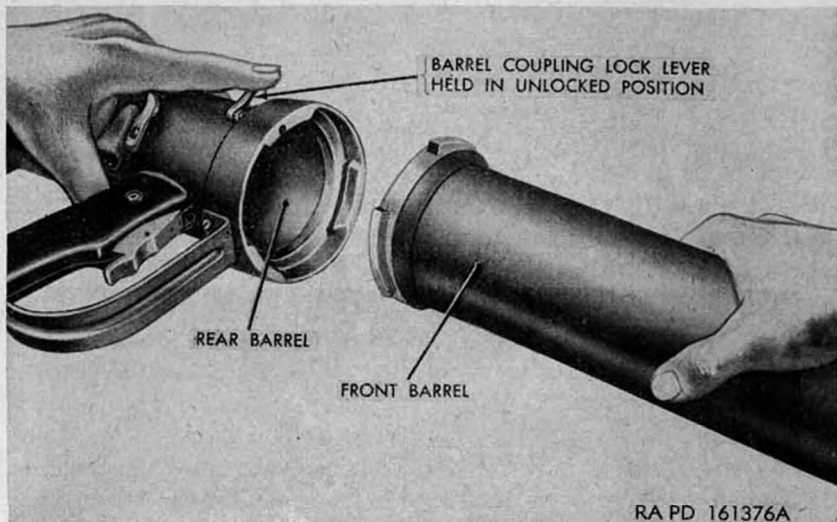

Figure 11. Method of assembling barrels for firing.
Barrel coupling lock lever (fig. 11)
a. The barrel coupling lock lever (fig. 11) is located on the right side of the rear barrel assembly just behind the coupling nut.
- (2) Raise the barrel coupling lock lever and hold it in its unlocked position (par. 14). Screw the front barrel into the coupling nut of the rear barrel (fig. 11), and release the lock lever. Be sure lock lever snaps into place.
- (3) When these directions have been followed, the launcher is ready for loading.
- (4) Prepare the ammunition for firing as described in paragraph 127.